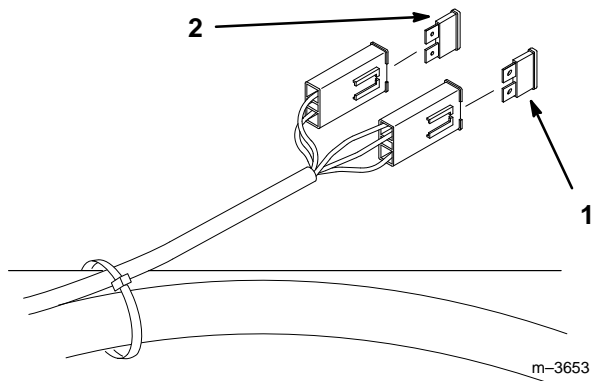

Figure 48
1. Raise the seat to gain access to fuse holder (Fig. 48).
2. To replace fuses pull out on the fuse to remove it (Fig. 48).